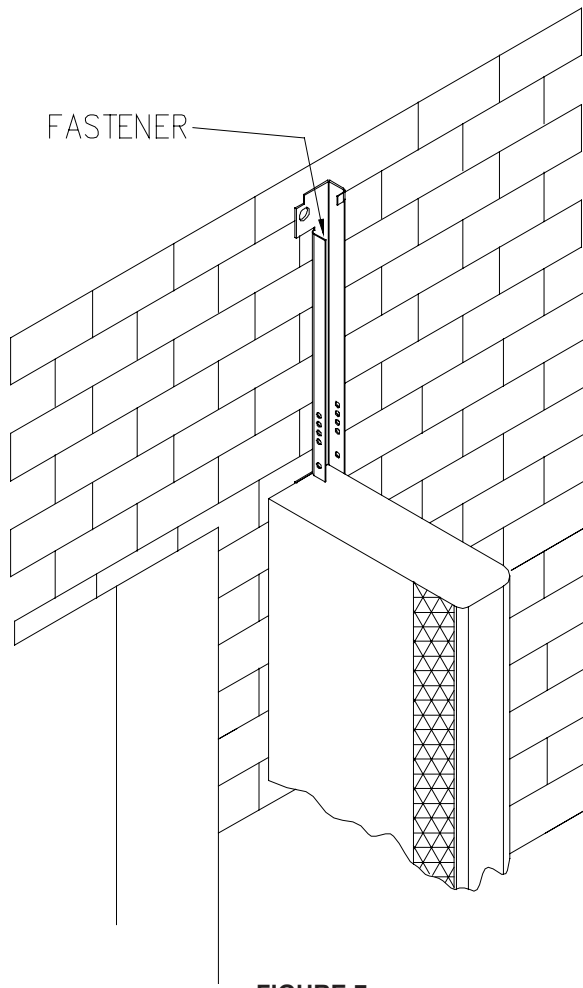

FIGURE 7
1. Before starting Step 5 of the standard canopy style header installation procedure, install an extra anchor/fastener through the brackets at the top of mounting bracket just below the area used for the backer board. (See Figure 7) With the increased height of the mounting bracket, extra support is needed to hold bracket to wall before attaching the front bar assembly. The front bar assembly imposes a load on the bracket and with the increased height, the load is increased. Make sure bracket is in the correct location before attaching. Verifying bracket spacing at this time is suggested.